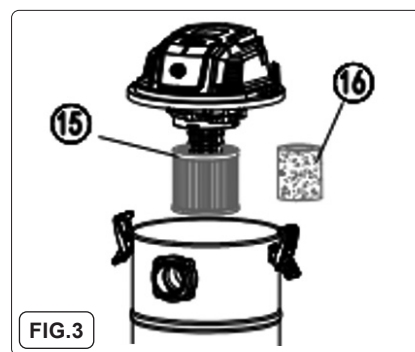

FIG.3
5.3. FILTERS (FIG.3).
7.1.2. Disconnect the hose handle from the plastic tube, assemble the HEPA filter as in Fig.3.
7.2.4. Reinstall all the accessories and units as per the assembly Fig.3